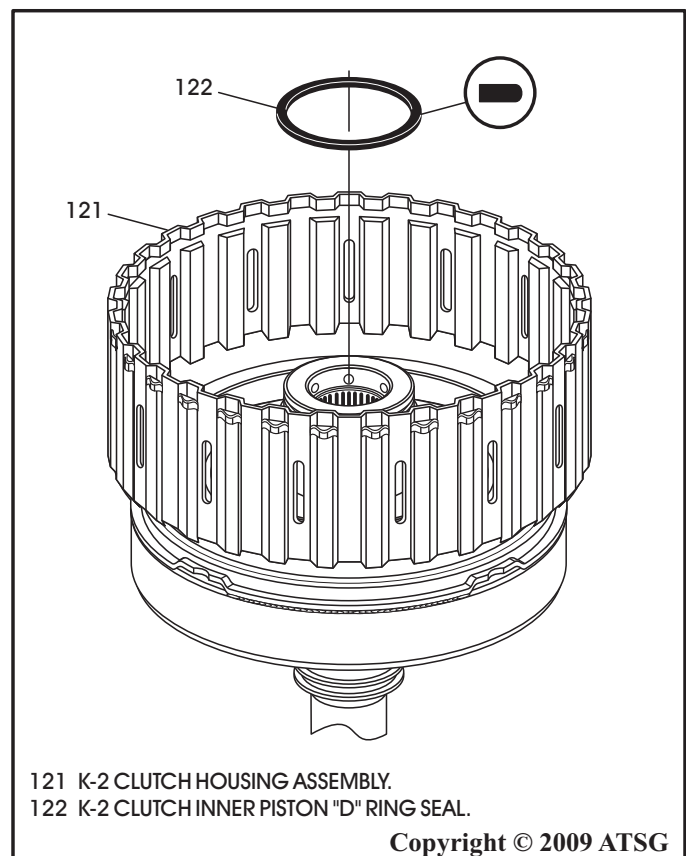

Figure 104
10. Install new "D" ring seal into the K-2 clutch housing, as shown in Figure 104, and lube with a small amount of Trans-Jel®.